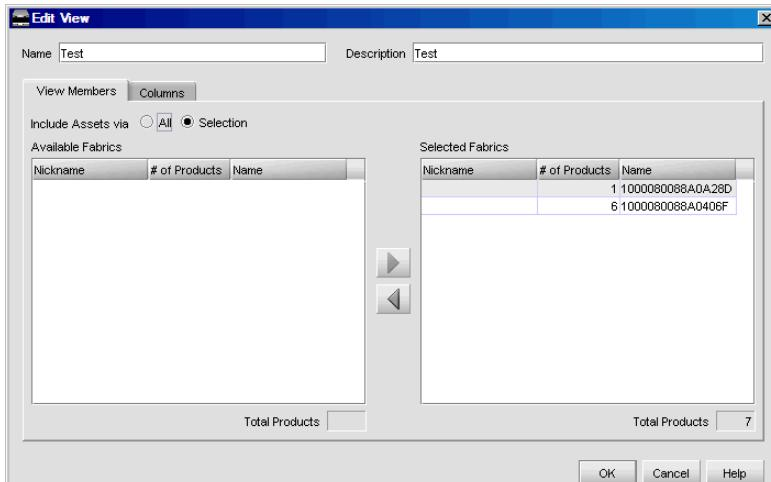

Figure 37 Edit View dialog box
- The Edit View dialog box opens (Figure 37).
The Edit View dialog box opens (Figure 37 on page 72).